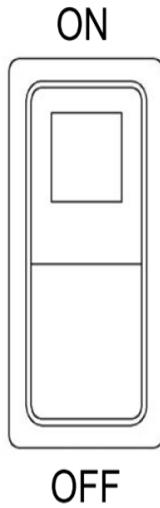

Figure 4-1
3. Turn ON the ON/OFF switch. See figure 4-1.